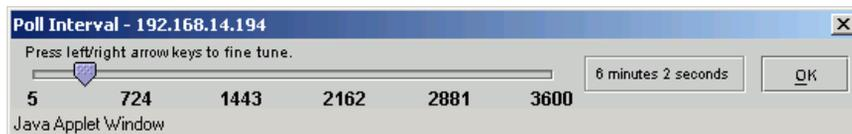

Figure 6-12 Poll Interval Dialog Box
1. Select *Options>Poll Interval* to display the *Poll Interval* dialog box (Figure 6-12).